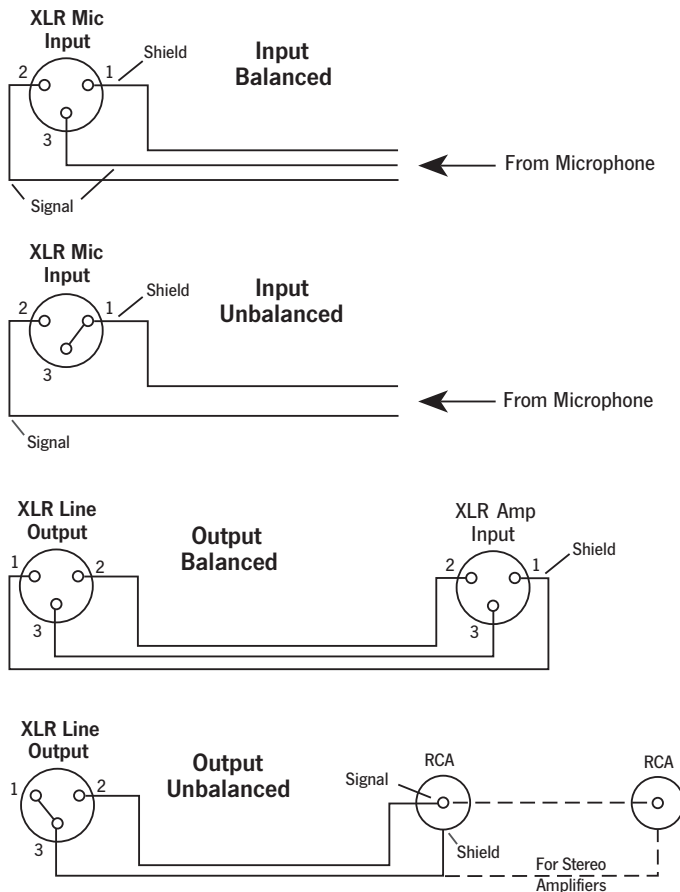

Figure 2.
3. Connect the mixer to an amplifier using a suitable cable. See figure 2, Connection Details.
For the best sound performance turn the input level control to a high setting (say 3/4) and use the Master as the volume control. Use the other input level controls to set the required mixing ratios. Adjust the bass and treble controls to get the desired sound. For best performance when using long lines between microphones/mixer and or amplifier use balanced lines. These reduce noise or hum that may be induced into the cables. Note that a balanced line uses three wires (two signal wires and one screened earth wire or shield) where an unbalanced cable uses only one signal wire and a screened earth. See the connection details (figure 2) for wiring up plugs etc.